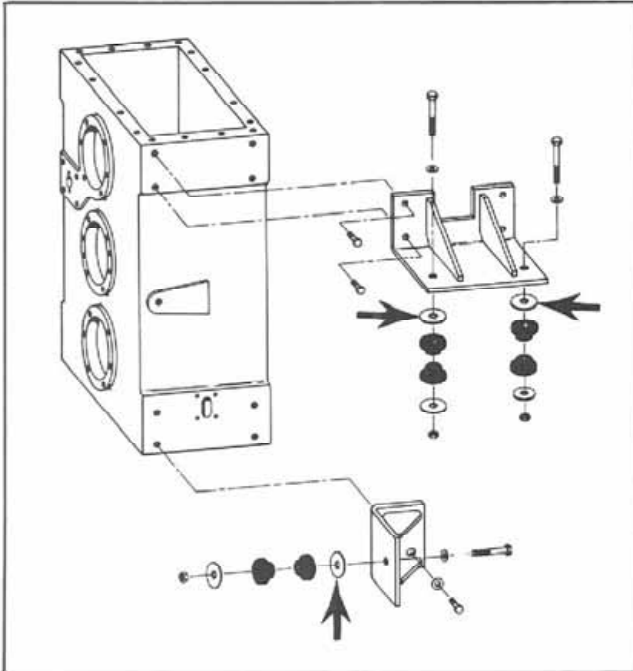

Figure 11:
9. If the measurement limits are exceeded, shim the transfer case mount brackets at any of the points shown (Fig. 11) on either side of the transfer case assembly, until the measurement falls below the maximum limit. Flatwashers may be used for shims.